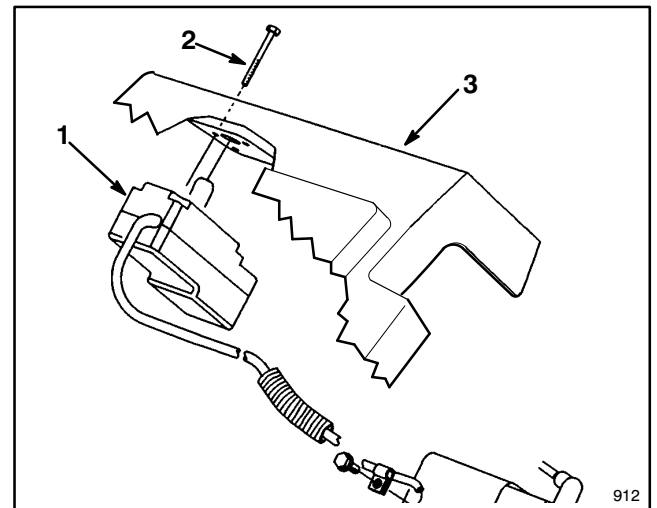

Figure 10
12. Attach new switch assembly to underside of new shroud using screws removed from old switch assembly (Fig. 10).